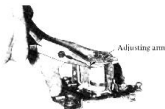

Fig. 6-16
- 4) Measure the no-load voltage, and if the voltage is not normal, adjust the armature spring tension bending with the adjusting arm slightly. (Fig. 6-16)